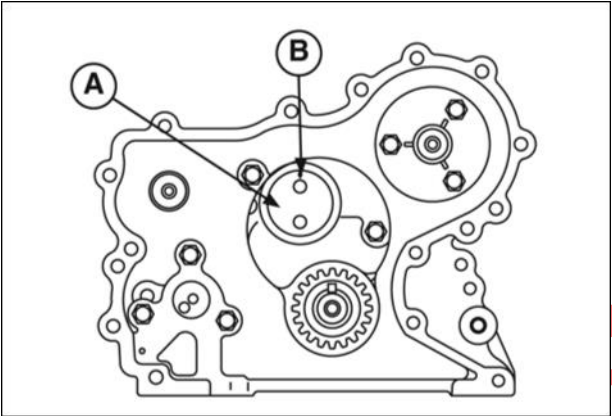

Figure 14
9. Assemble idler gear shaft (A, Figure 14) with ID mark (B) up.